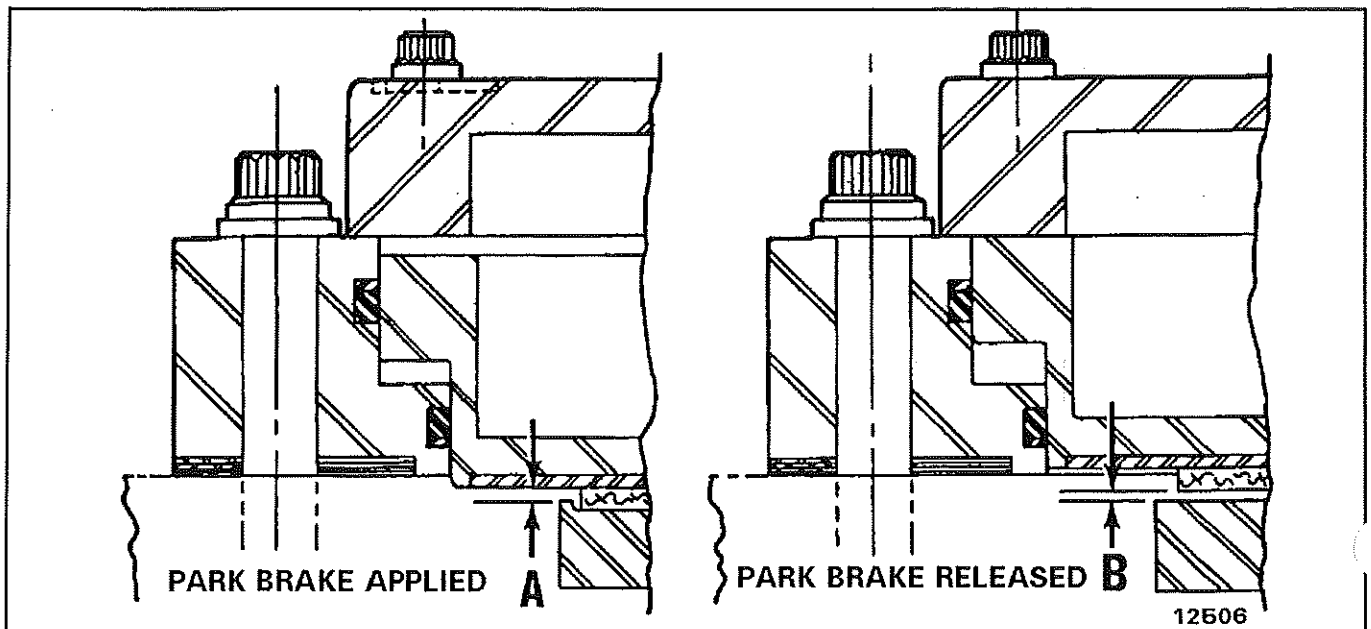

FIGURE 1 - MAINTENANCE MEASUREMENTS (12506)
4. With the pressure released, measure the clearance between the disc outer edge and the lining carrier with a feeler gauge. (See dimension "A" in Figure 1.) Measure carefully, being sure to include any burr which may exist at the outside of the disc. Also measure the disc thickness at the wear surfaces.
6. With the parking brake released (pressure applied) measure the clearance between the park brake lining and disc with a feeler gauge (see dimension "B" in Figure 1).